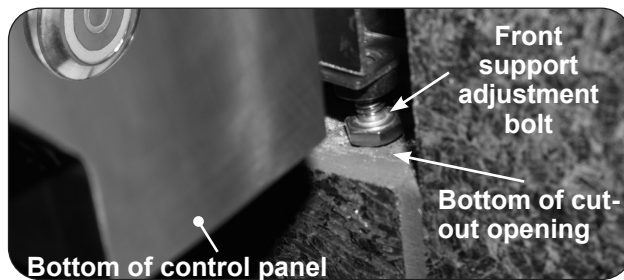

Fig. 27-1 Front support adjustment bolts
5. Rotate the front support adjustment bolts (up or down) until the pizza oven hanger rests flush on the countertop, AND, the adjustment bolts are touching the supporting structure found at the bottom of the cutout (lower support). Use a $\frac{7}{16}$ " open-end wrench as needed. See Fig. 27-1.